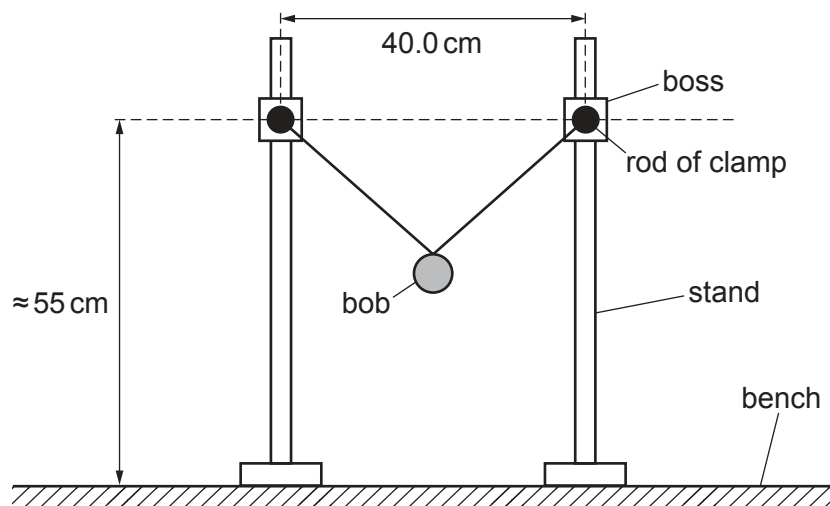

Figure 4.2
4.2 The apparatus should be set up for the candidates as shown in Figure 4.2. The rods of the clamps should be parallel to each other. The string loops should be placed over the rods. The centres of the rods of the clamps must be 40.0 cm apart. The pendulum bob is suspended from the string, e.g. using a hook.